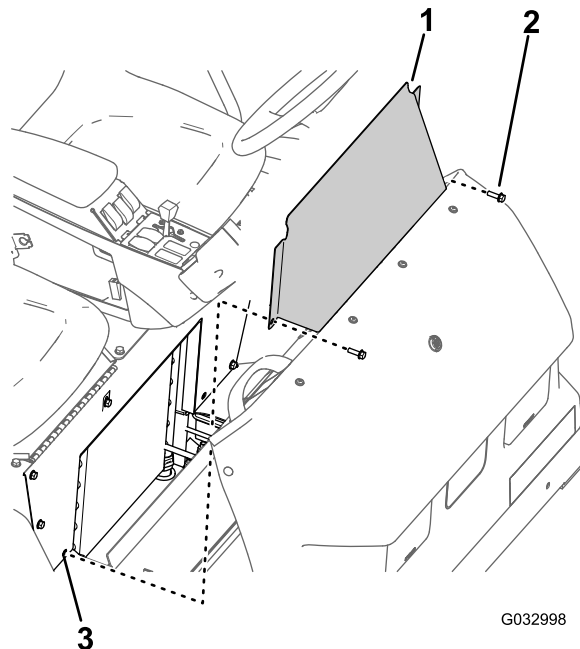

Figure 60
1. Remove the 2 flanged-head bolts that secure the seat-base-access panel to the seat base (Figure 60).
2. Remove the seat-base-access panel from the machine (Figure 60).
1. Align the holes in the seat-base-access panel with the holes in the seat base (Figure 60).
2. Assemble the seat-base-access panel to the seat base with the 2 flanged-head bolts (Figure 60) that you removed in step 1 of Removing the Seat-Base-Access Panel (page 50).